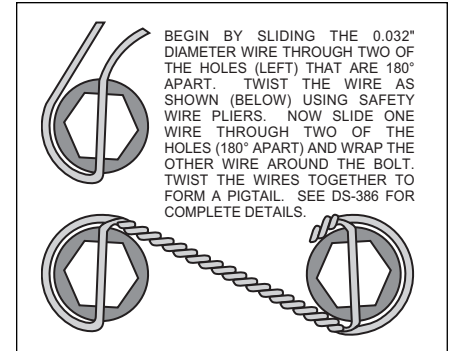

Figure 4. Safety Wire Diagram
- With the larger I.D. side of the rotor (5) facing away from the hat (6), bolt rotor (5) to hat (6) through the backside of the rotor using washers (7) and bolts (8). Torque bolts (8) in an alternating sequence to 180 **in-lb**. Safety wire bolts (8) using standard 0.032 inch diameter stainless steel safety wire as shown in Figure 4. Please refer to Wilwood's data sheet DS-386 (available at [www.wilwood.org/ds386.pdf](http://www.wilwood.org/ds386.pdf)) for complete safety wire installation instructions. Slide the rotor/hat assembly onto the spindle. Install a couple of lug nuts (finger tighten) to keep the rotor/hat assembly in place while continuing with the installation.